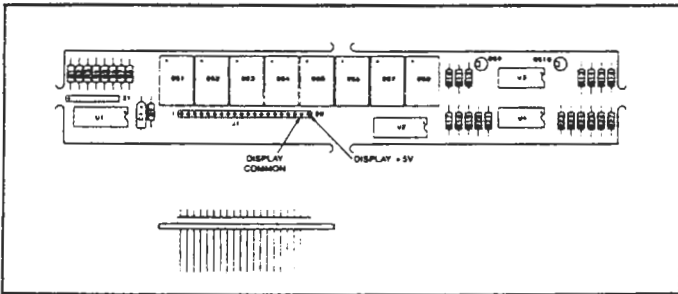

Figure 5-1. Test Points on Display Board
This section is primarily devoted to troubleshooting the system. Table 5-1 will assist you in isolating the problem and making the proper repair. Figures 5-1 and 5-2 identify electronic parts and test points on both the typical axis/display printed-circuit board and the power supply board.
2. Low supply voltage.	For qualified electronic technician only: Check for low +5V D.C. (for reading head supply voltage). See Figure 5-1 (also see "b".2.).